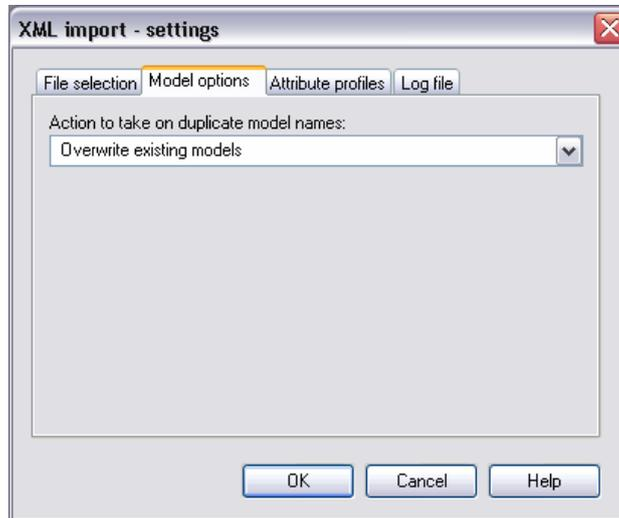
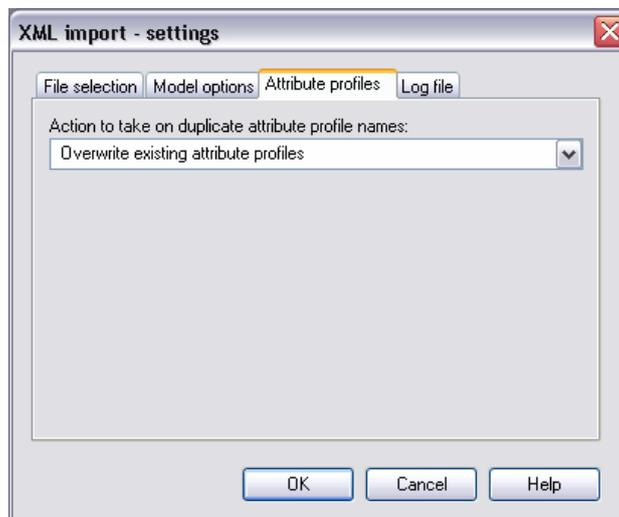

Figure 420: XML import settings - model options
Figure 421: XML import settings - attribute profile options
**Hint:** Only the name of the models or of the attribute profiles to be imported is compared to the models or attribute profiles stored in the ADOxx database, not their contents. Therefore, an imported model or attribute profile may have the same content as one stored in the ADOxx database, but a different name. This means it is very important to select the appropriate options as listed in the window "XML Import - Settings" (see fig. 420) for importing models (see chap. 6.3.1, p. 474) with identical names or in the window "ADL Import - Settings" (see fig. 421) for importing attribute profiles (see chap. 6.3.1, p. 474) with identical names.